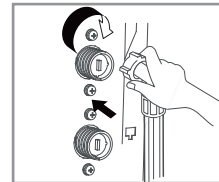

Fig. 22
- **Insert the filter into the valve** and tighten up the inlet hose. (Fig. 22)